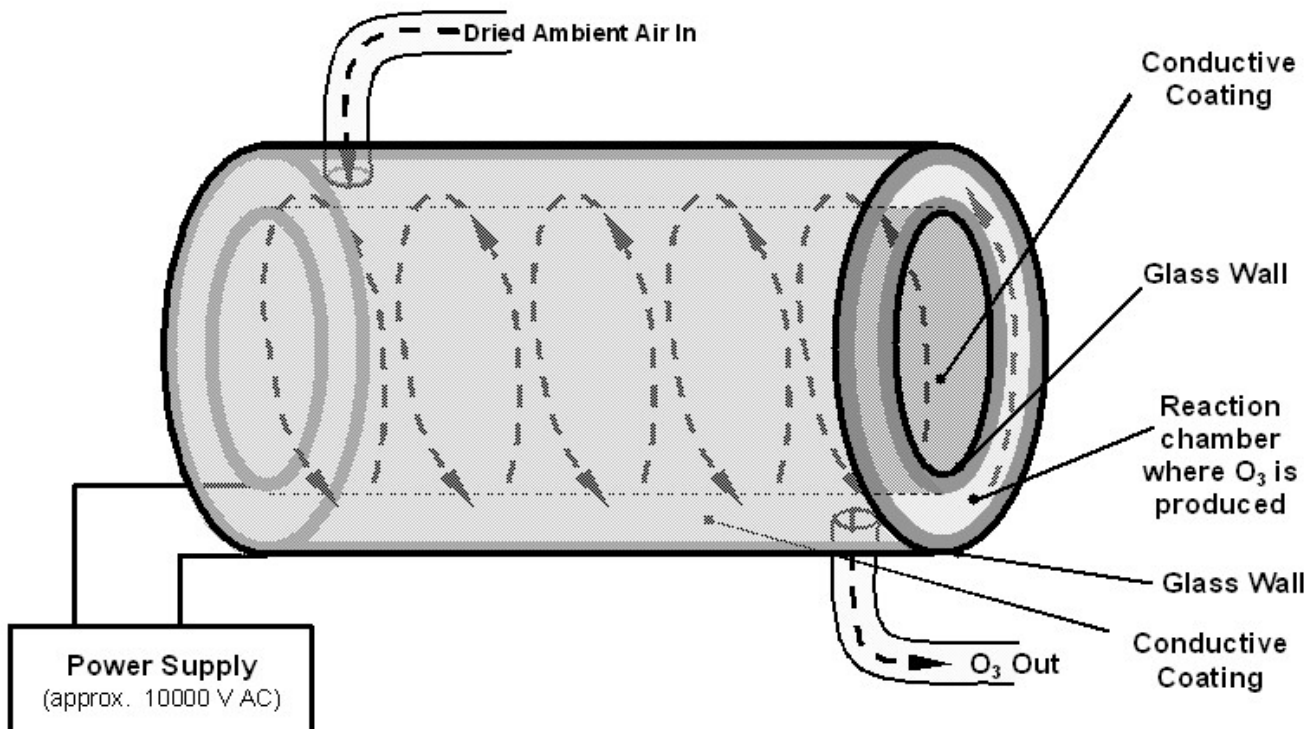

Figure 10-11: Ozone Generator Principle
The TML41M/H uses a corona discharge (CD) tube for creating its O₃. Corona discharge generation is capable of producing high concentrations of ozone efficiently and with low excess heat. Although there are many cell designs, the fundamental principle remains the same (Figure 10-11).